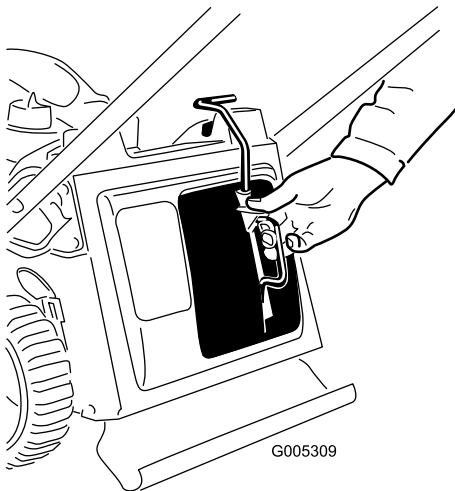

Figure 29
1. Remove the mulch plug (Figure 29).